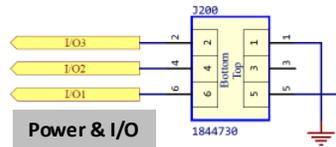

Figure 2-3. 6-pin Power & I/O Connector (P/N 73-1194A85)
- A latching 6-pin connector is used (Figure 2-3). It is keyed and can only be inserted one way.